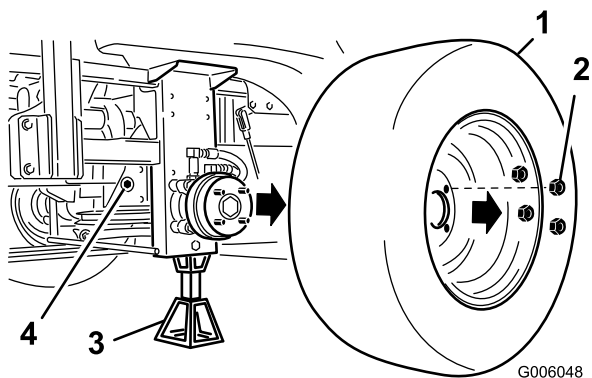

Figure 50
7. Locate the hole in the frame and remove the side plug in the gear box. (Figure 50).